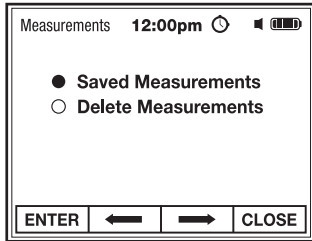

Fig. 17
1. Use the soft keys to access Saved Measurements (Fig. 17).
1. Use the soft keys to select and ENTER Delete Measurements (Fig. 17).